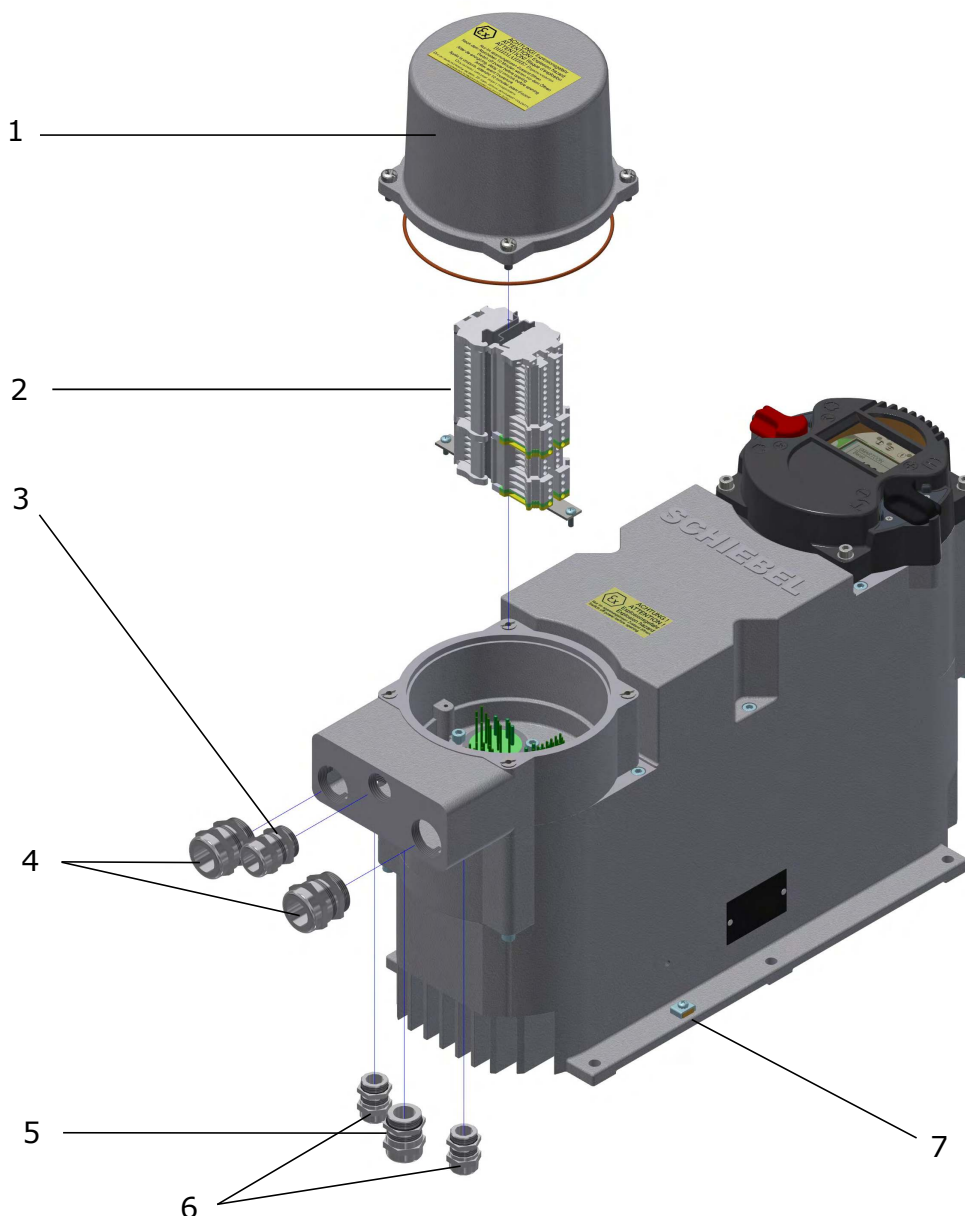

Figure 109: Connection Ex-version
- For (ex-design) or on sepcial order, the connection is made with terminals (see Figure 109): The maximum conductor cross-section for the control signals is 2.5 mm and 4mm² for the power connection